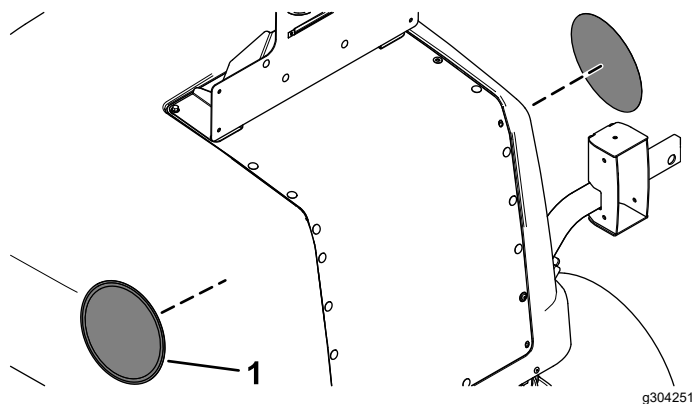

Figure 34
14. Apply the appropriate speed decal to each side of the hood (Figure 34).